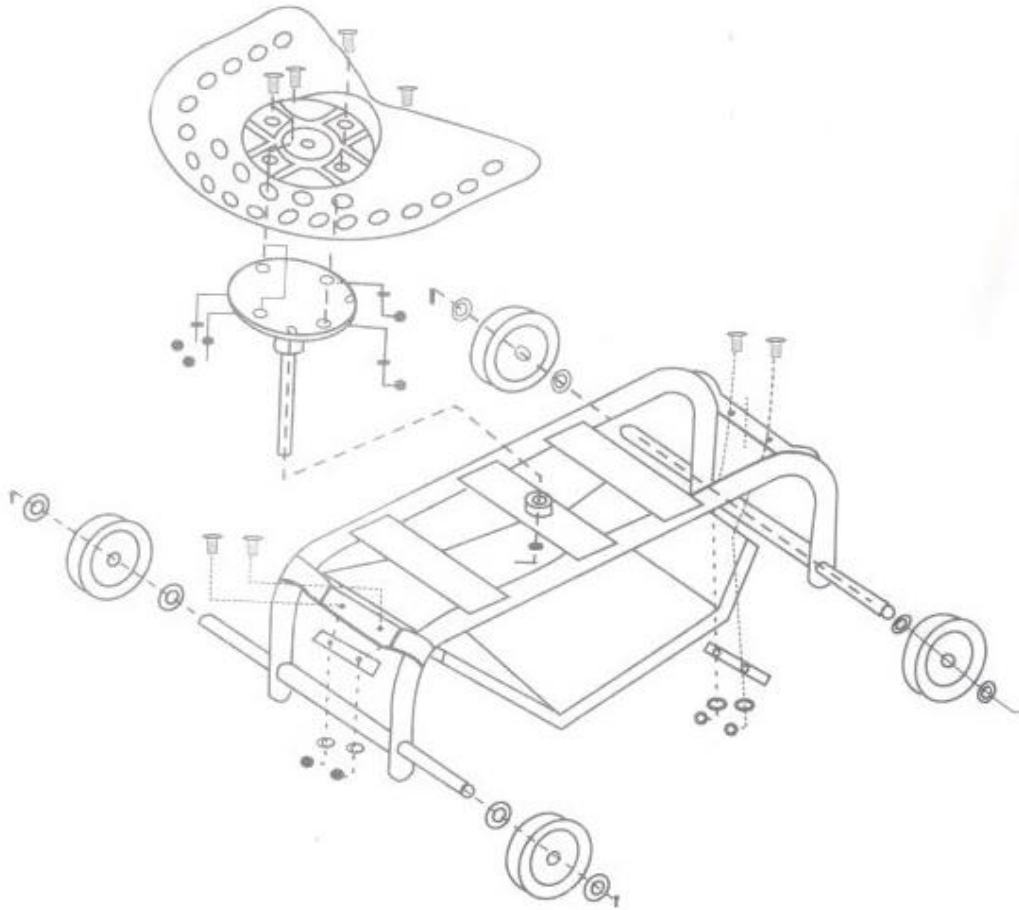

Figure 1
- Place the frame as shown in the figure 1.